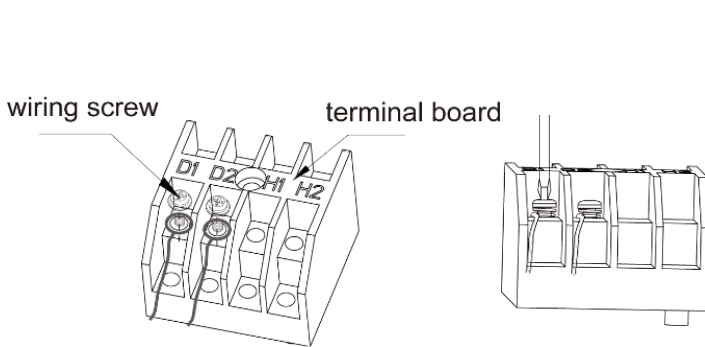
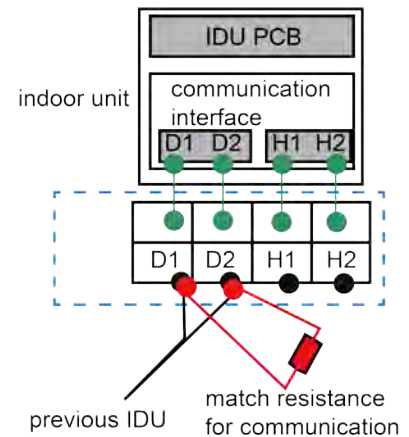

Fig. 14 Wiring Board
Fig. 15 Communication Wire Interface
- (1) Connect the communication wire to terminal H1 and H2 of indoor 4-bit wiring board, as shown in Fig. 14.
- (2) Fix the communication wire of wired controller with the wire clamp of electric box.
- (3) If the unit is equipped with air box, connect the communication wire of air box to terminal H1 and H2, and then fix the communication wire with the wire clamp (HBS network can connect 2 air boxes in maximum).
- (4) (when connecting to can1 network and linking to VRF are needed, please refer to this wiring diagram) Connect the communication wire to terminal D1 and D2 of indoor 4-bit wiring board, as shown in Fig. 14.
- (5) Fix the communication cable with clamp of electric box.
- (6) In order to ensure the reliability of communication between IDU and ODU and the communication among each IDU, add a matched resistance(supplied in a package before ex-factory) on the wiring board of the last indoor unit in a series connection. The matched resistance should be connected in parallel between terminal screw D1 and D2, as shown in Fig.15.